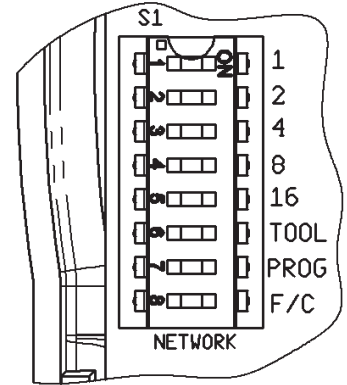

Fig. 7: Dip Switches
#### Dip Switch Options (see Fig. 7 on next page)
1. Remove cover and set DIP Switch #7 (PROG) to On (see Fig. 7).